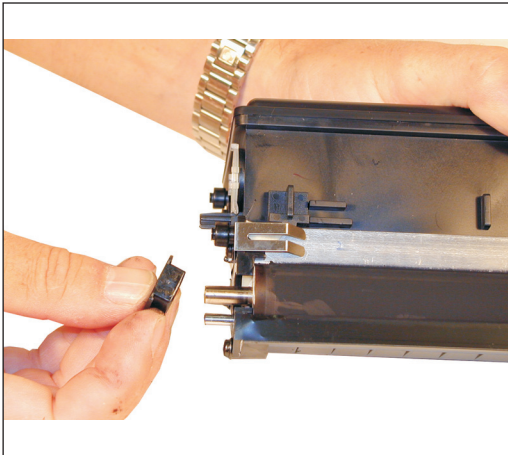

Figure 17
14) Replace the developer roller back into the hopper. Make sure that the shims are not damaged, and that the black retaining blade is not damaged. Install the bushing. See Figure 17